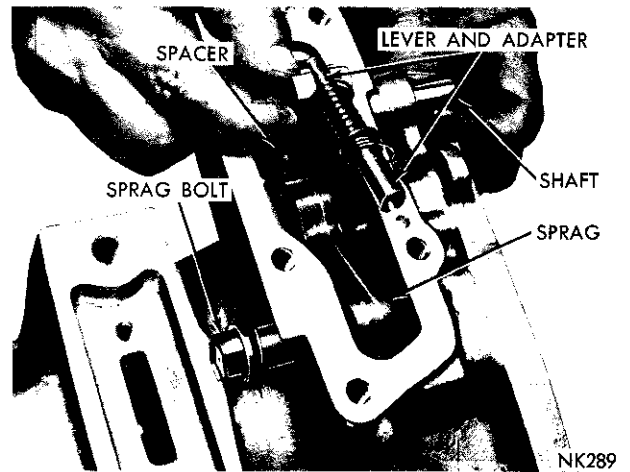

Fig. 46—Removing or Installing Parking Lock Lever and Cable Adapter
spacer and cable adapter (Fig. 46). Replace the adapter spring if it is distorted.
- (2) Position the lock lever, spacer and cable adapter assembly in the extension housing and install the lever shaft (Fig. 46). The lever roller must be on top of the sprag so as to push it into engagement with the parking gear. Install and tighten the plug to 150 inch-pounds torque.
- (3) Insert a small punch through the cable opening in the adapter cover and into the end of the adapter.